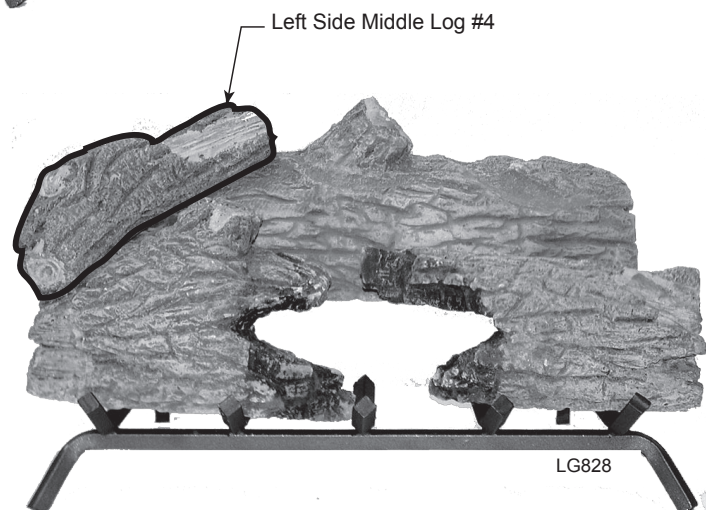

**Figure 8 -
2. Place front left log #2 on the front of the grate and to the left. *Figure 8*
3. Place front right log #3 on the front of the grate and to the right. *Figure 8*